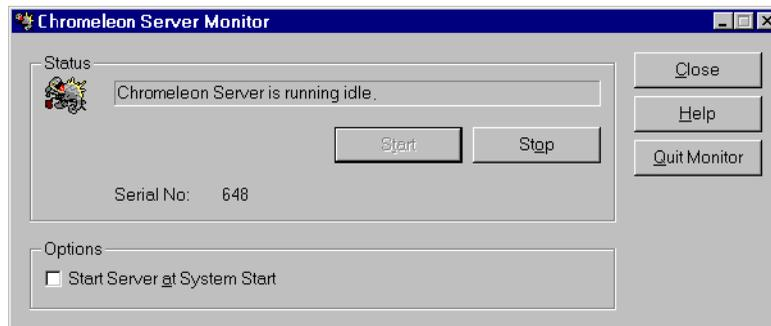

Figure 2-3. Server Running
5. Check the Server Monitor status. It should now display “Chromeleon Server is running idle.” (see Figure 2-3).